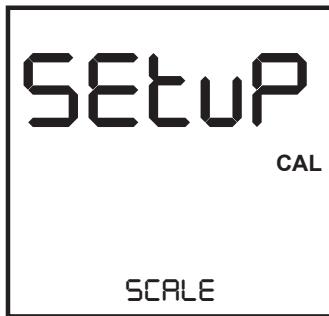

Figure No. 11
1. With the power off, remove the two (2) screws from the left end cap (as viewed from the front of the MV2) and remove the end cap.
2. Locate the calibration switch (access is through a hole near in the side panel). See Figure No. 11.